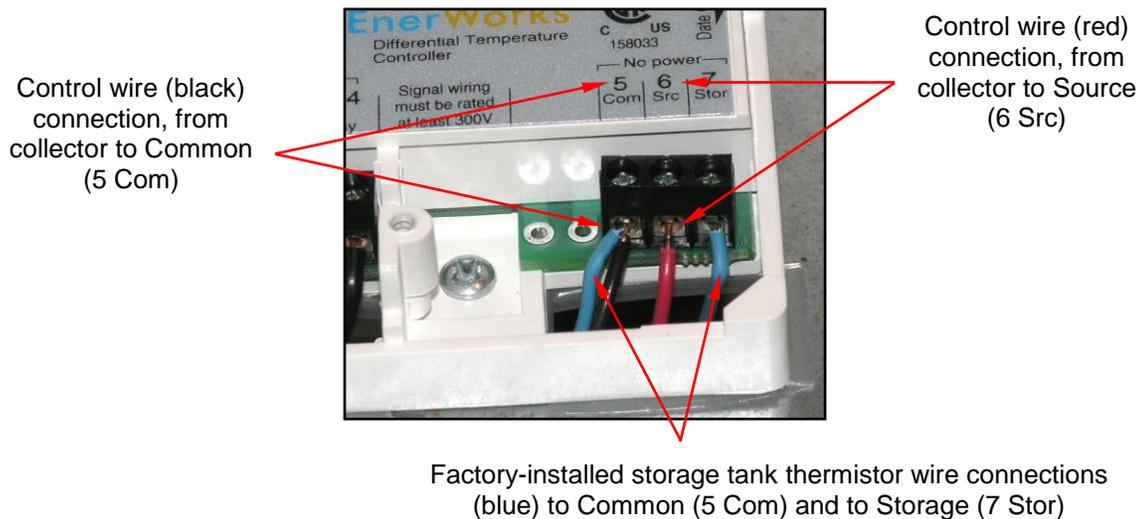

Fig.4.11.2 – Controller thermistor connections
7. Using small flat-head or Phillips screwdriver, connect control wire conductors to terminals 5 and 6, to Common (Com) and to Source (Src) (Fig. 4.11.2).